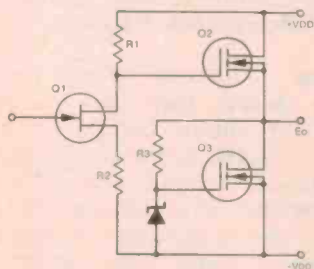

Fig. 4 Single ended output with current source.
circuit (1), and single-ended output with current source, also transposed from an excellent bi-polar circuit (2) (Fig. 4).